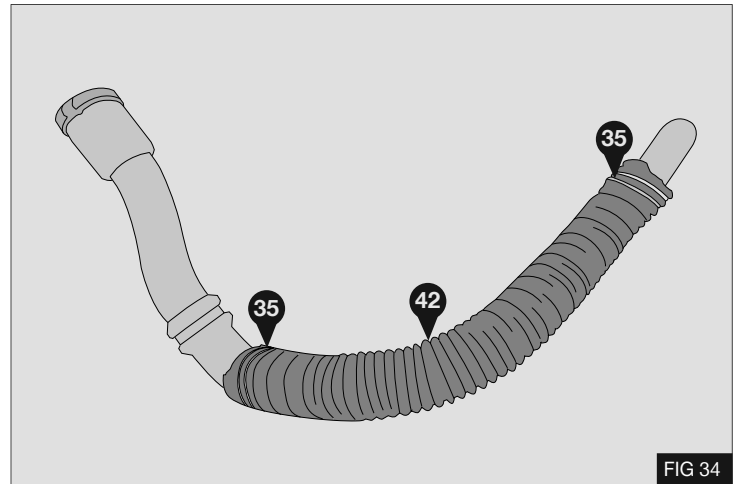

FIG 34
2. Assemble the spiral hose (42) onto the sections of the washer filler neck. Secure with Hose clamps (35) - Fig 34